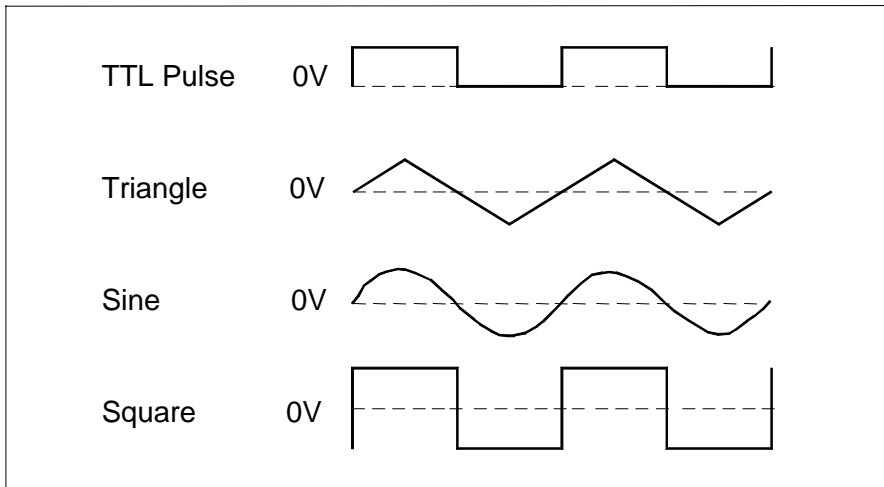

FIG. 3 OUTPUT WAVEFORMS AND PHASE RELATIONSHIPS
- F. Select sine, square, or triangle wave output by pressing the corresponding **FUNCTION** button. FIG 3. illustrates the output waveforms and their phase relationships.